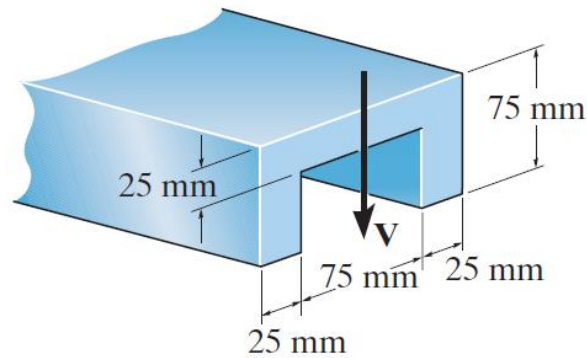

Figure Q3a
- (a) Determine the maximum shear stress in the member in Figure Q3a if a shear force,  $V$  of 90 kN is applied.